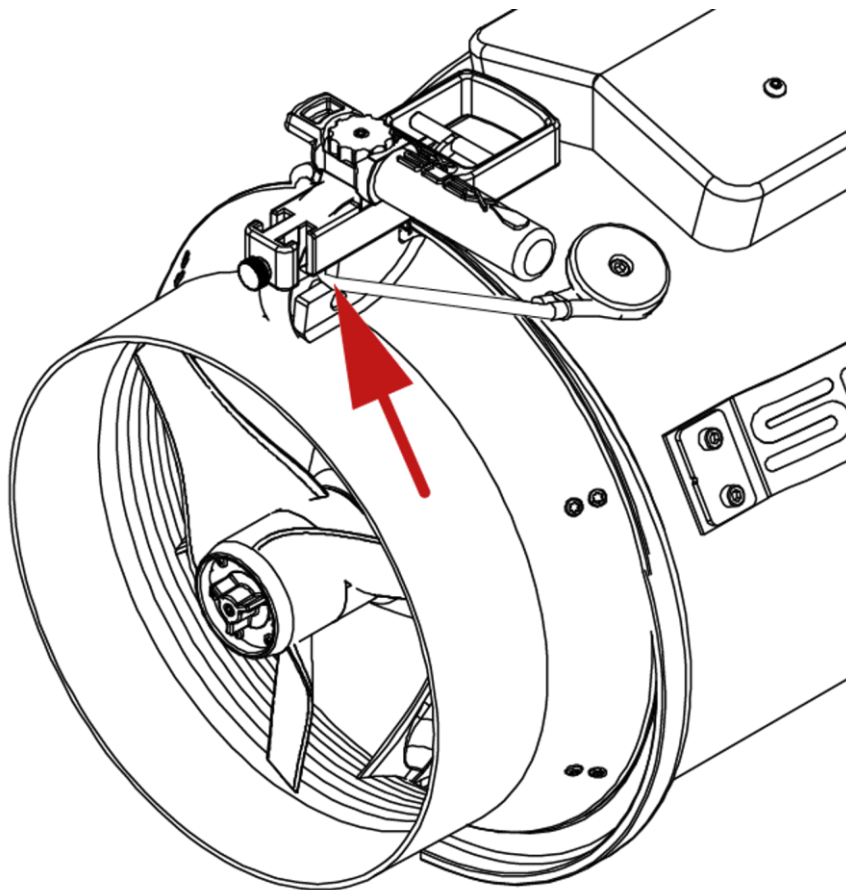

Fig. 5 - Elastic coupling
- Hook the Scooter retaining elastic to the Scooter handle (Fig. 5) grabbing it by the red cloth handle;
- Unhook the elastic holding the Scooter from the handle of the Scooter (see Fig. 5);